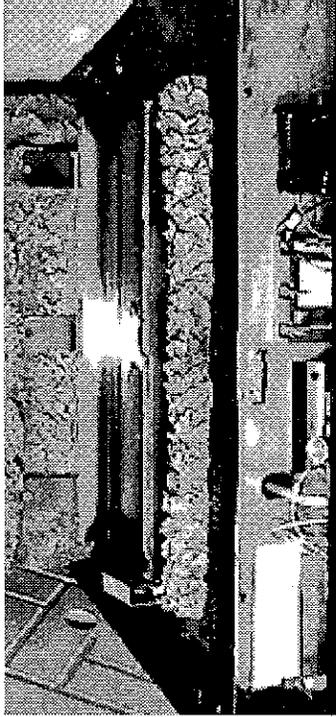

Figure 3.4 Hearth Pan/Back Log Assembly
- Remove the hearth pan/Back log assembly by removing nine screws. See Figures 3.4 and 3.5. Carefully pull up on the hearth pan / back log assembly to remove. Set aside.